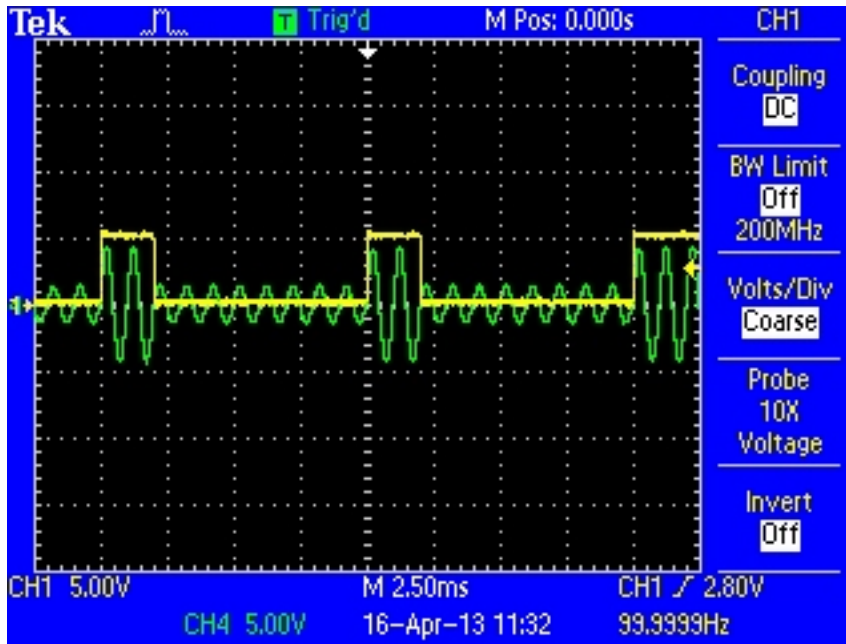

Figure 2 – Comparison between AM IRIG-B and DCLS IRIG-B
0. **Direct Current Level Shift (DCLS)** – typically this is a 0-5 Vdc pulse width modulated signal, where the different pulse widths represent coded data. This is the most common modulation method used today due to its high accuracy (< 100 ns at the port). An example of a DCLS signal is shown by the yellow trace in figure 2.
1. **Amplitude Modulated (AM)** – modulated with a 1 kHz sine wave carrier signal with a 3:1 ratio, this signal has no DC content. This made AM popular in the past as it allowed the signal to be transmitted over long distances. Due to the low signal accuracy (< 2 microseconds at the port) AM is no longer the signal of choice. An example of an AM IRIG-B signal can be seen on the green trace in figure 2.